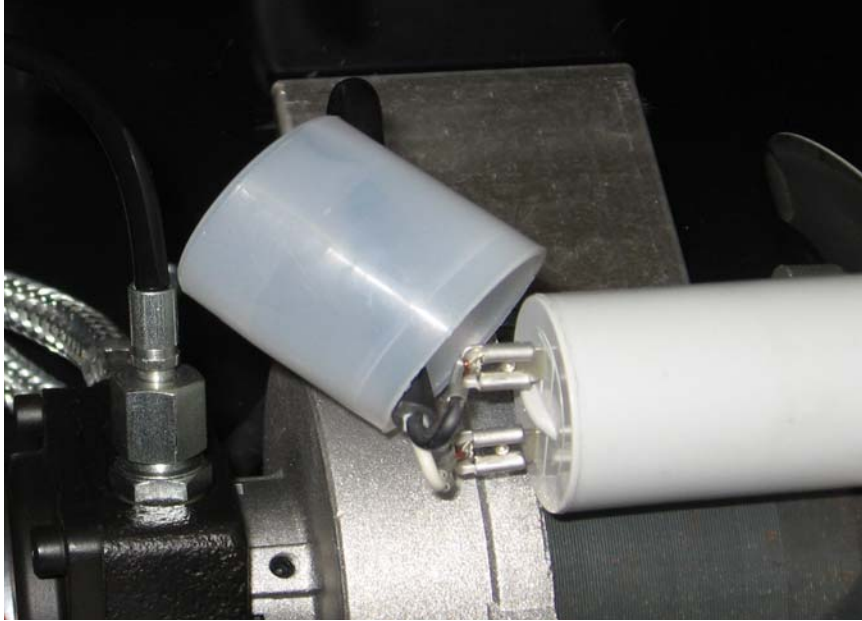

Figure 5-3 - Capacitor Wire Connections
11. Slide the plastic cover off the capacitor (11) and disconnect two female terminal couplers. (See Figure 5-3).
12. Using a 13mm socket wrench, loosen and remove the mount nut and lock washer; remove capacitor (11).
13. Using an 8mm nut driver, loosen and remove four screws (78) securing the motor assembly plate (12).
14. Remove the electric motor (10) from the lower heat shield assembly (6).
15. Turn the electric motor (10) and plate assembly (12) upside down.
16. Using a 8mm nut driver, loosen and remove four electric motor mounting screws (79) and four spring washers (80); remove unserviceable electric motor.
1. Place serviceable electric motor (10) onto the motor assembly plate (12) and reinstall four mounting screws (79) and four spring washers (80). Using a 8mm nut driver tighten hardware.
2. Install motor assembly plate (12) into lower heat shield (6).
3. Using an 8mm nut driver reinstall four screws (78) and tighten.
4. Using a 13mm socket wrench, reinstall capacitor (11) to the electric motor (10) install and tighten the lock washer and nut.
5. Reconnect two female terminal couplers from the electric motor (10) to the capacitor (11) and reinstall the plastic cover as shown in Figure 5-3.
2. Using an 8mm nut driver, remove two middle screws from the maintenance access panel (7) and loosen four corner screws (78).
3. Slide maintenance access panel (7) rearward.
4. Slide the plastic cover off the capacitor (11) and disconnect two female terminal couplers as shown in Figure 5-3.
6. Remove capacitor (11) from electric motor (10).